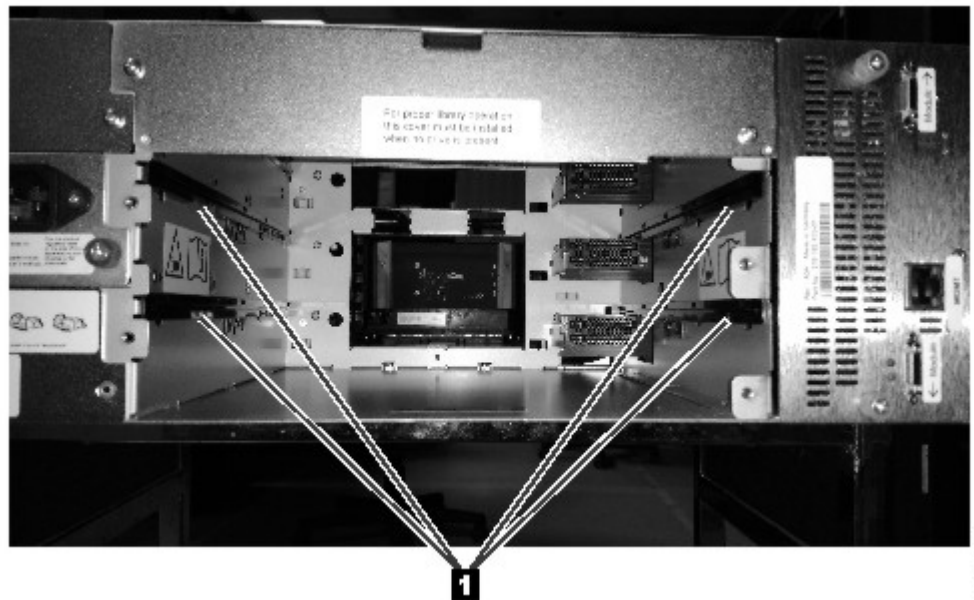

Figure 59. Alignment rails
2. Align and slowly insert the new tape drive into the drive bay along the alignment rails (1 in Figure 59 on page 117) while the drive assembly is supported. The tape drive must be flush with the back panel of the library.